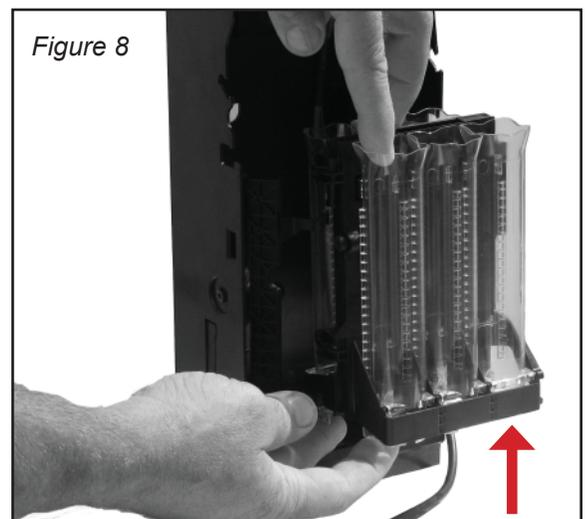

Figure 8
- **By Removing Cassette:** The cassette can also be lifted out of the changer for loading coins. Open the Payout Cassette and swing it out, then lift the Payout Cassette straight up to remove it (See Figure 8). Load coins as described above. Reinstall the Payout Cassette by first positioning it on the lower pin, then align the upper pin and lower the the cassette onto the hinge.